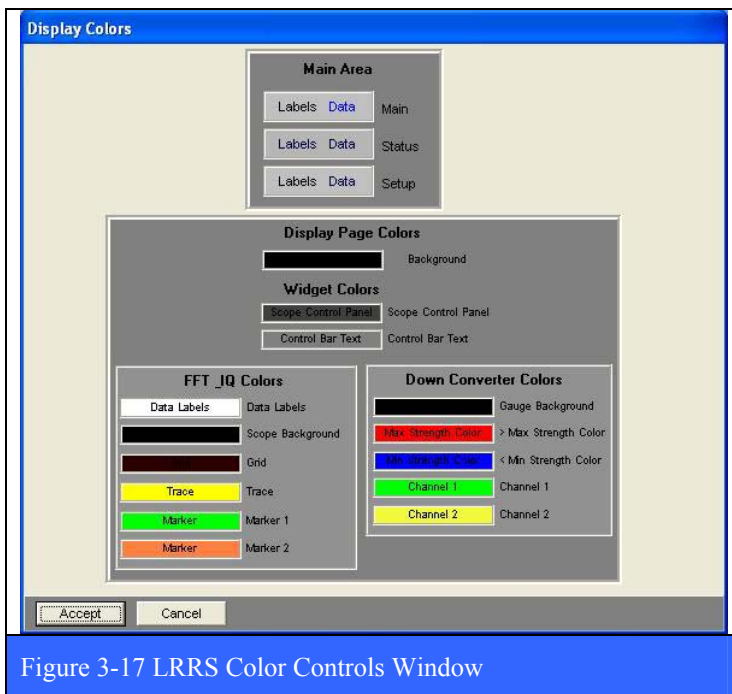

Figure 3-17 LRRS Color Controls Window
vertical bar graph will change to the color specified in the Down Converter Color control (see Figure 3-17 on page 92 – Max Strength Color)
- MIN Strength (dBm) - This button sets the numerical value associated with the change of color to indicate that the input RF power level in dBm is less than the value specified. Once the input RF power level has gone below this level, the color of the vertical bar graph will change to the color specified in the Down Converter Color control (see Figure 3-17 on page 92 – Min Strength Color)
By using the **Colors** controls (shown in Figure 3-17 below), the user may change the LRRS color scheme to just about anything. There are a few default settings that can be used. Select the default colors radio button of interest (currently Browns, Blues, etc) and click the Set Default Colors button and the respective pre selected color scheme will occur. Otherwise, click on the Change Colors button and the menu of various color items will be displayed.